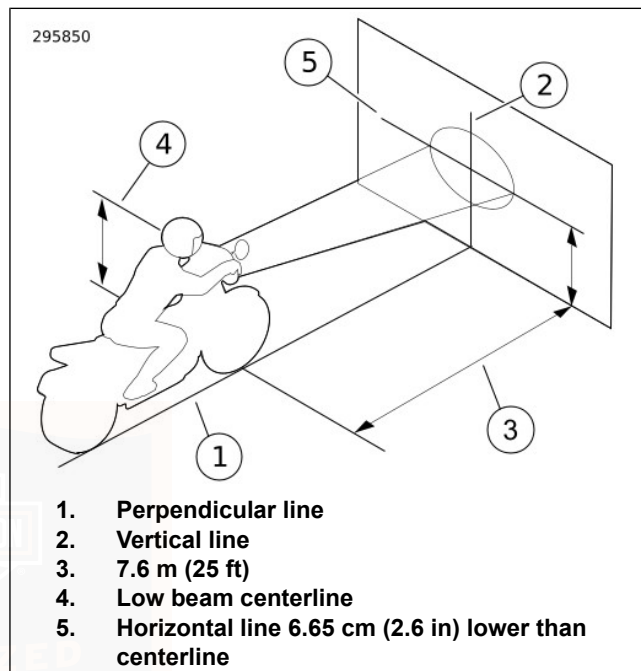

Figure 67. Checking Headlamp Alignment
1. Figure 67 Park the motorcycle on a line (1) perpendicular to the wall.